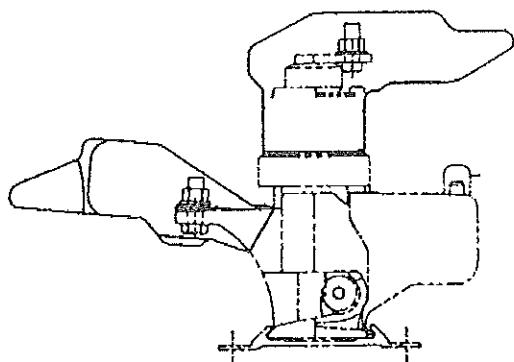

FIGURE 2
2. Remove boot from contactor and cut end of boot to make an opening just big enough for conductor to slide through (See Figure 2).
4. Slide boot back onto contactor so that it is completely seated as shown in Figure 2.